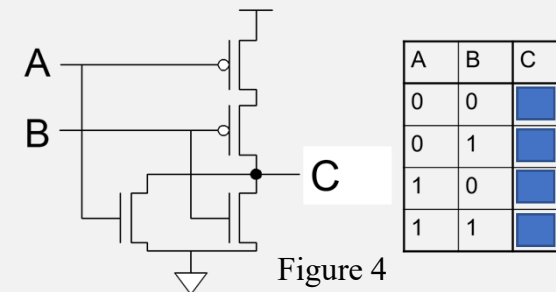

Figure 4
❑ (4) Fill in the highlighted blanks in Figure 4.